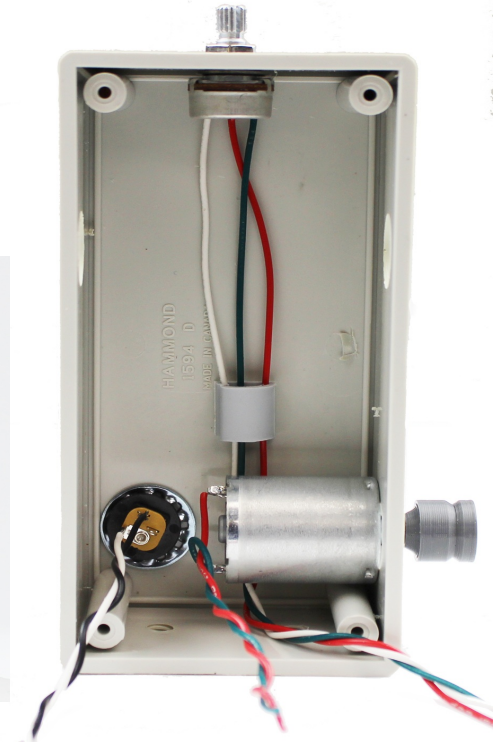

fig 9
- 6) Remove the backing from the adhesive pad of the small gray wire clip. Install the clip about two thirds of the way down from the top of the box (fig 9).
- 2) Install the pot with the lugs facing the back of the enclosure as per fig 9.